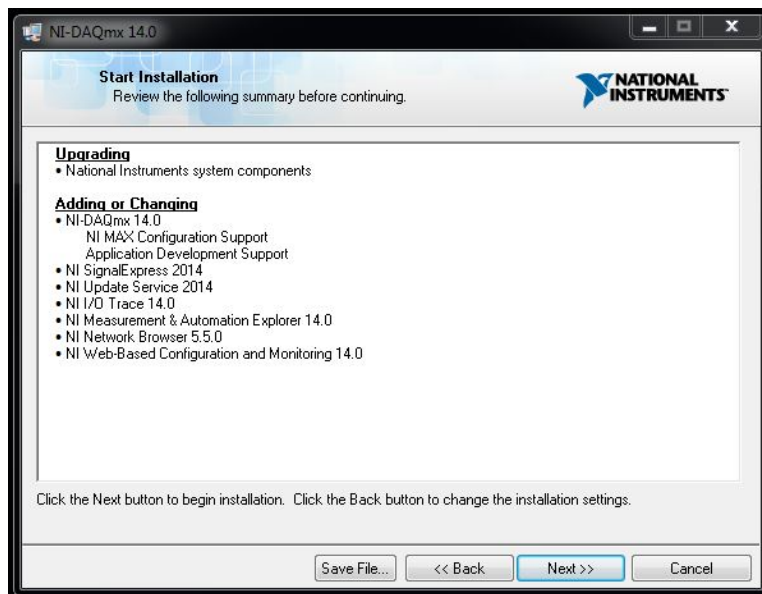

Figure 4-5: NI-DAQ™mx Installation – Step 5
NI-DAQ™mx software is supplied with the National Instruments (NI) PCIe-6363 data acquisition card. A standard installation of the NI-DAQ™mx software is demonstrated through a series of screenshots shown below (see: Figure 4-1 through Figure 4-5). The screenshots were obtained for NI-DAQ™mx 14.0 installed from the DVD supplied with a NI PCIe-6363.
6. The next dialog window will itemize a list of changes during the installation. Press Next to continue (see: Figure 4-5).